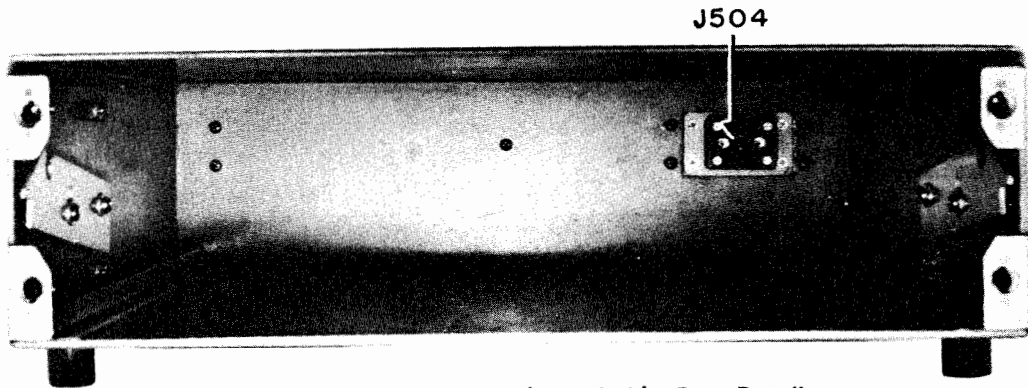

Figure 1-6. View into Cabinet, Inside Case Details
a. **CABINET.**—Figure 1-6 is a view into the cabinet with the receiver chassis removed. It is fabricated from aluminum alloy and finished in a gray enamel. Guide rails, located at the bottom of the cabinet facilitate removal and replacement of the receiver chassis assembly. When installed in a standard relay rack, the four mounting feet are removed, and the two angle brackets are attached to the sides of the cabinet. Spring-acting side latches on each side of the case permit the receiver chassis to be withdrawn to a point where most of the top chassis components are accessible with the chassis still supported. When it is necessary to remove the chassis from the cabinet, the two latch levers are pressed down, at the same time pulling out on the chassis (see figure 5-2). The receptacle connector (J504) which is visible at the right rear of the case interior is so located that, when the receiver chassis is placed in the cabinet, the receptacle mates with a corresponding connector on the receiver Audio-Power Supply sub-chassis.